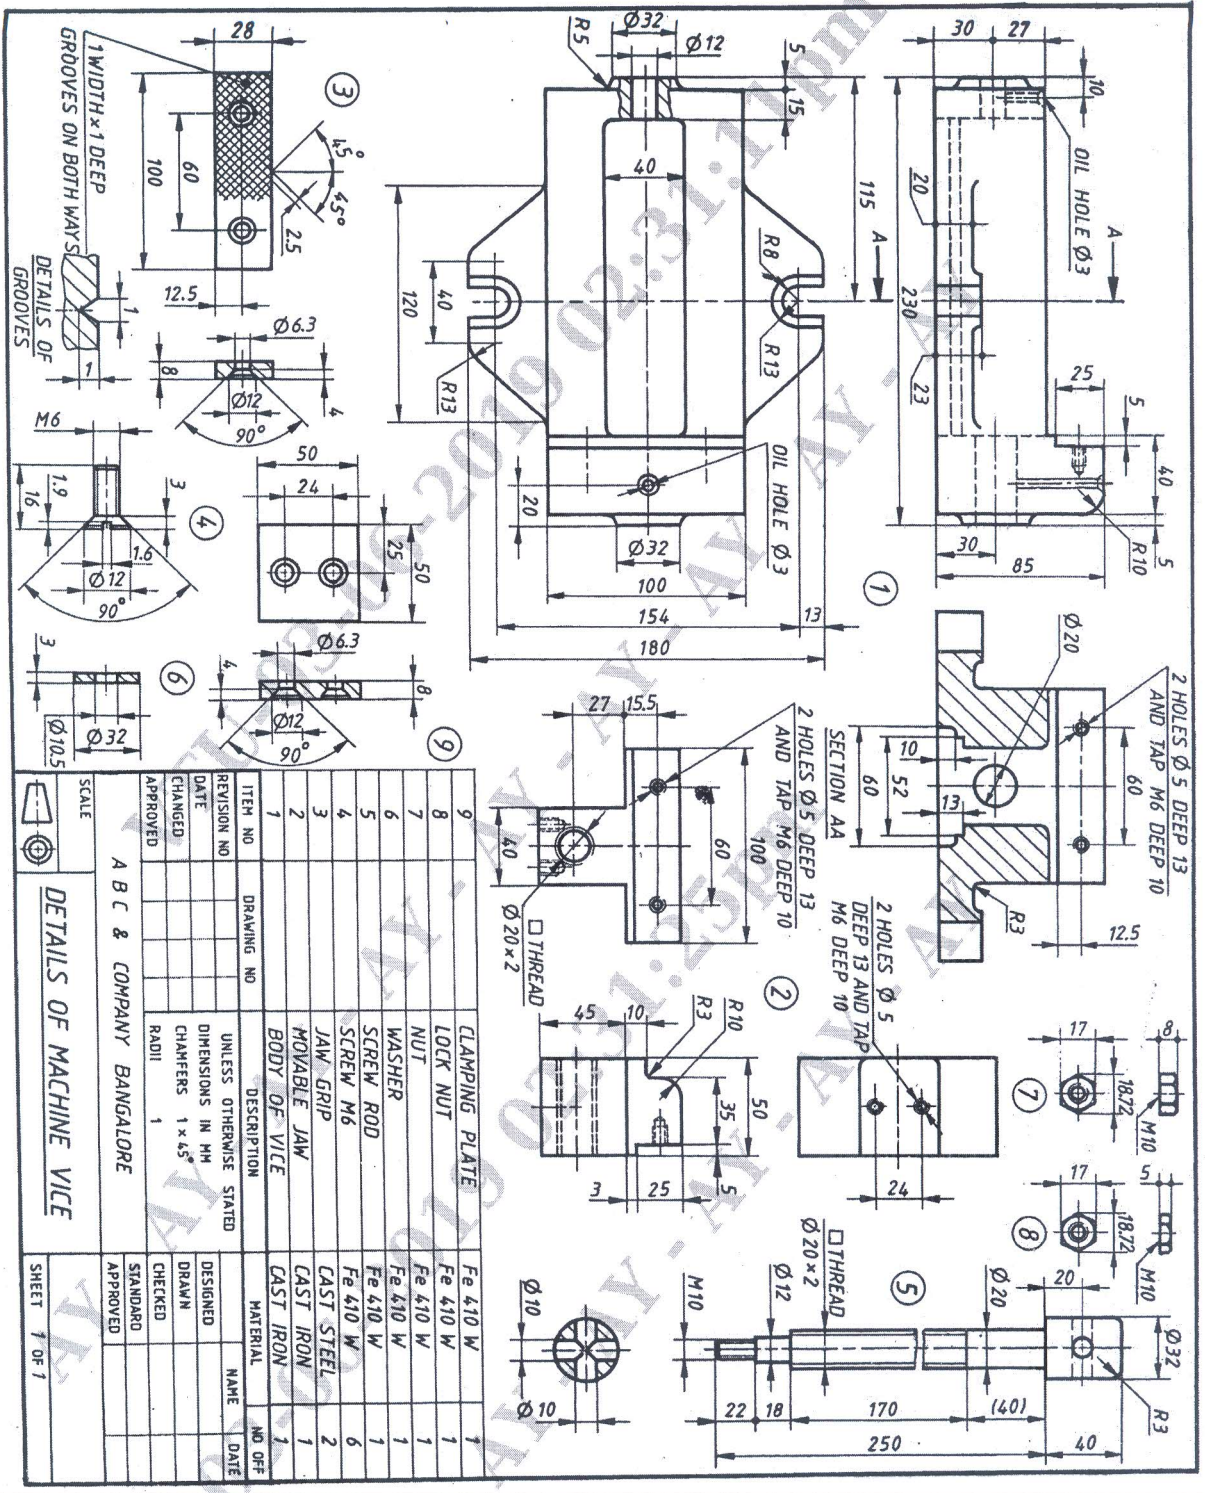

Figure 2
- Q.No.6** Details of machine vice are shown in figure 2. Assemble the parts and draw the following views. i) Sectional front view ii) Top view. **(50 Marks)**